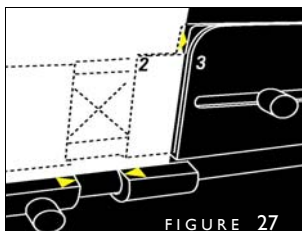

FIGURE 27
1. Your cover should still be under the transparent bar. With the Centering Guide in its last position, slide your cover over so its right edge bends down slightly, and stops against the partial step at the flat yellow triangle (figure 27). Push the lever to the right to hold down your cover.